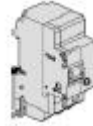

**Figure 6: Typical hydraulic circuit part layout.**
- Hydraulic circuit bypass valve, see Figure 6.
**Minimum heat pump water input flow must not be under the value required for the model in question. See Paragraph 2.** For system layouts such as that in Figure 6, water flow can be regulated using the bypass valve.